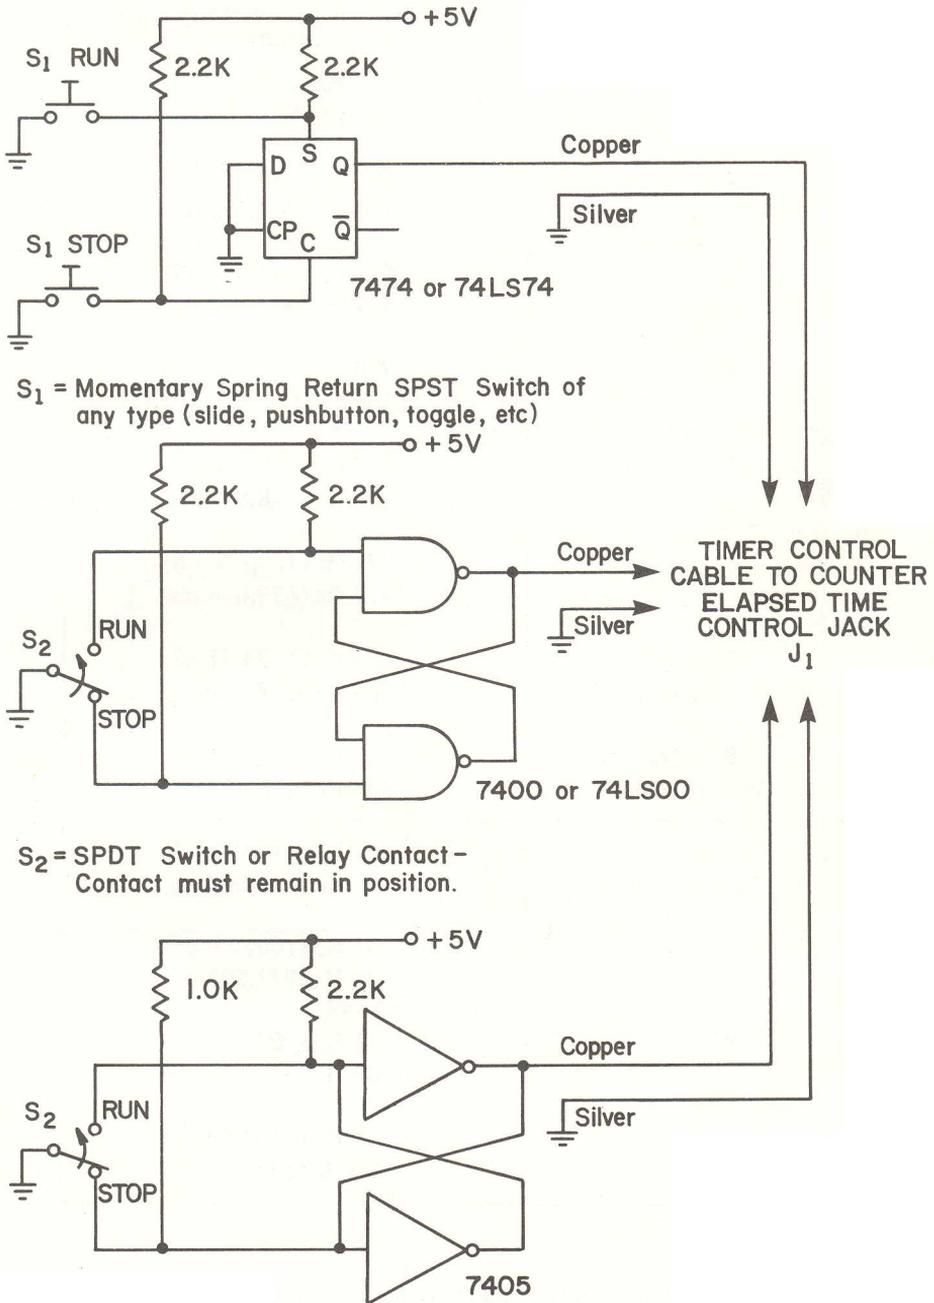

Fig. 17. De-Bounce circuits.
B. CONTACT DE-BOUNCING (Refer to Fig. 17)
For certain applications when a TTL interface circuit is not available at a timing signal source, a contact closure may be used to control the length of the time interval. This contact closure may consist of either switch contacts or relay contacts. The opening and closing of contacts may cause noise to be applied to the counter, preventing the Trigger Gate Logic circuitry from operating properly. As a result, slide switches are *not* recommended as a source of manual time interval control because they are extremely noisy. Pushbutton switches and toggle switches produce less noise because of their quick action. The decreased noise produced by these switches can be further reduced by connecting a $0.22 \mu\text{F}$ to $0.47 \mu\text{F}$ non-polarized capacitor across the switch contacts. If a relay is used, connect the capacitor across the relay contacts. This is sufficient for the proper operation of the Trigger Gate Logic circuitry most of the time. If a greater degree of reliability is required, a TTL circuit must be used. Several examples are shown below in Fig. 17.